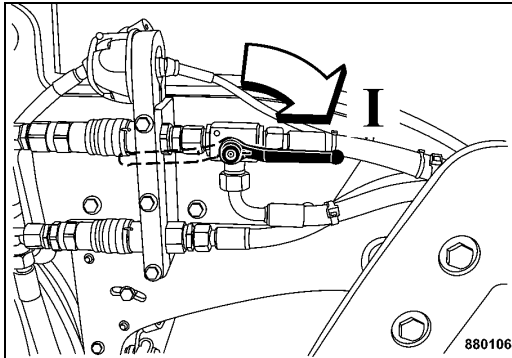

Fig. 91
- Turn the ball valve for the chip spreader to position "I" (Fig. 91).